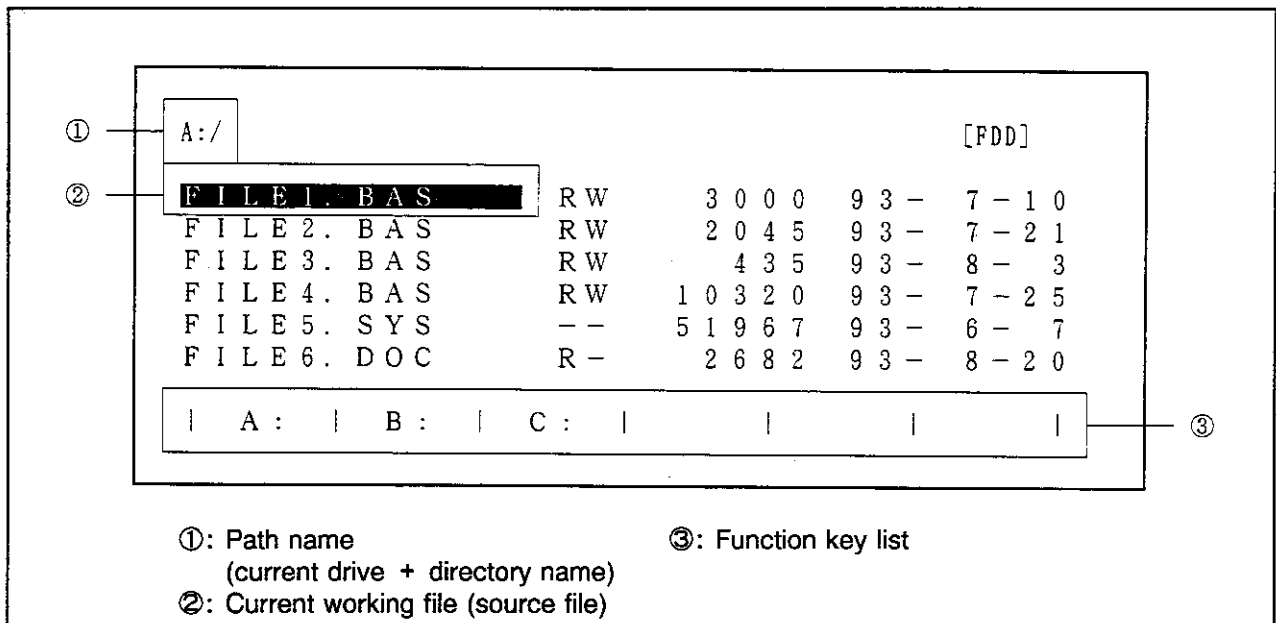

Figure 4-35 COPY Display Screen
①: The current working file is the file indicated by the cursor in the FILE mode.
(7) COPY (file contents copy) screen
When COPY (K5) is selected with the function key from the FILE mode, a screen like that shown in Figure 4-35 appears if the working file is a text file. (For details, see (4) in Section 4.1.4 "FILE Mode.")